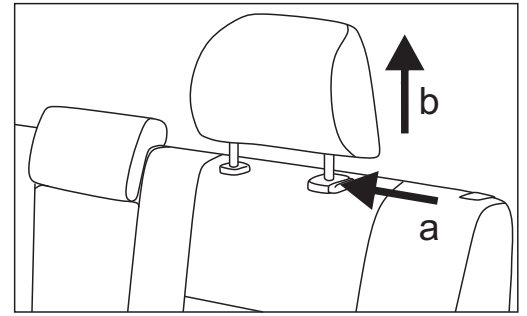

Fig. 1
1. Remove all 3 headrests (Fig. 1).